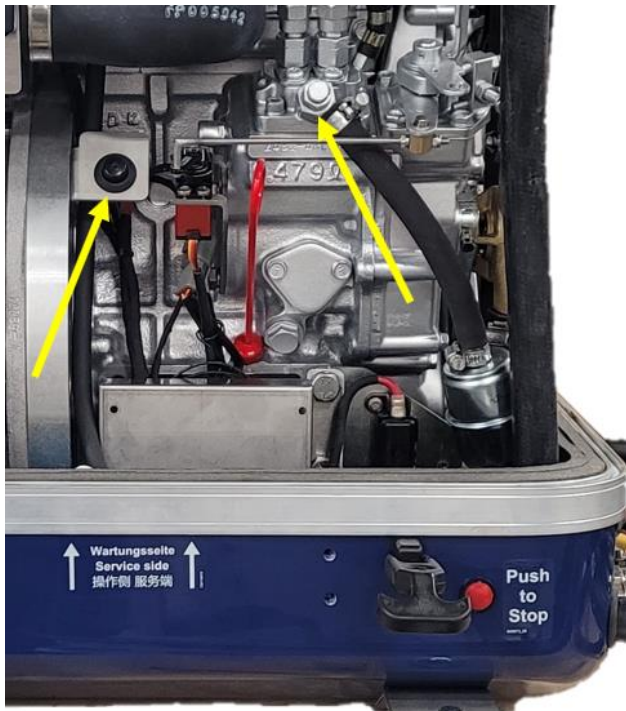

Figure 24: Failure bypass switch.
2. Press the fuel primer button (left arrow in Figure 24) for 3 minutes.
3. Check for air in the fuel by opening the fuel bleeder screw (right arrow in Figure 24) at the injection pump while pressing the fuel primer button.